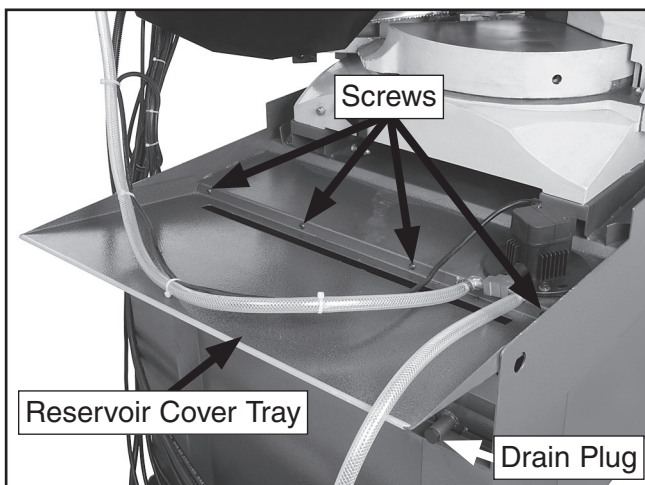

Figure 32. Cutting fluid system reservoir and cover.
2. Remove the screws and the reservoir cover tray (Figure 32).